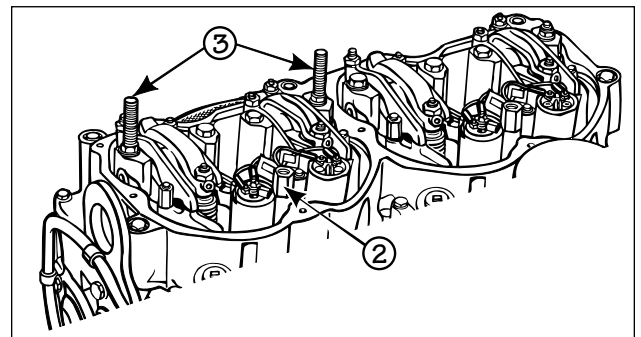

FIG. 2
2. Refer to Fig. 2. Torque the cylinder-head bolt spacer (2) to 70 lb.-ft. (95 N•m). Torque the brake mounting studs (3) to 70 lb.-ft. (95 N•m).